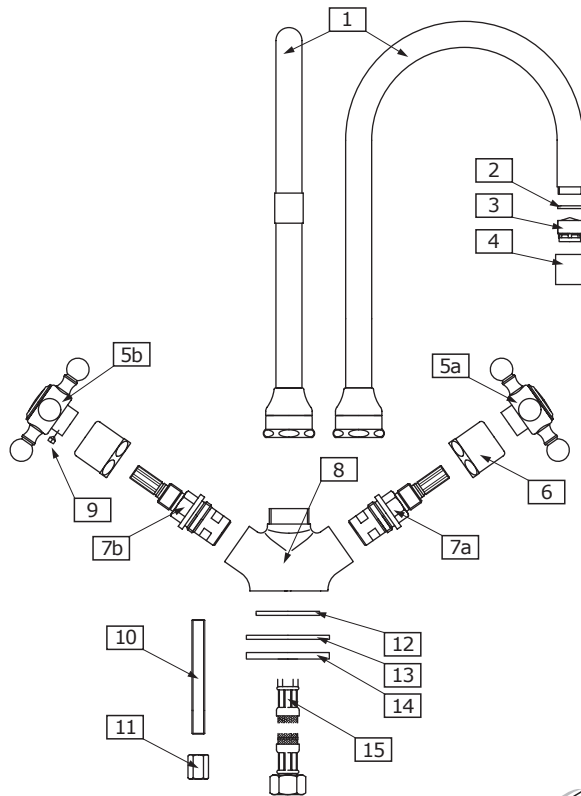

FIG. 1
- ➔ Connect flexible hoses **(15 fig.1)** to supply pipe installation.
(see fig. 1)
(ver fig. 1)